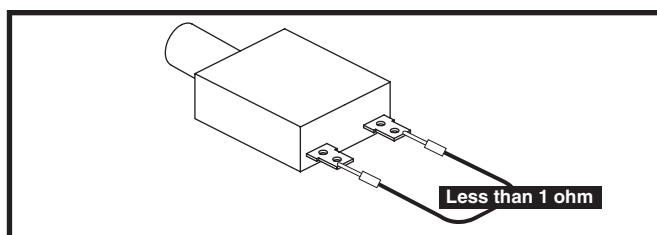

Figure 7. Circuit Breaker (2f)
13. Measure resistance across contact 1 and contact 2 of the circuit breaker (2f). **See figure 7.**
- *If your multimeter indicates less than 1 ohm, then replace the power interface harness (2) and retest the system.*